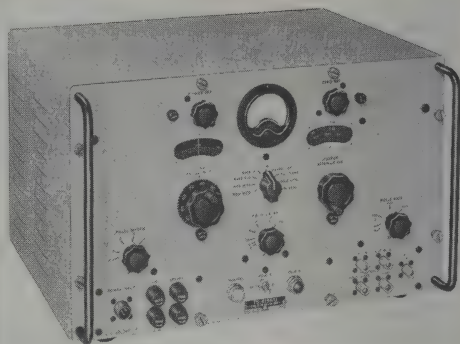

Figure 1-2. Signal Generator TS-419A/U,
See table 1-1 (figures 1-1 and 1-3) for equipment supplied with Signal Generator TS-419/U. See table 1-4 (figures 1-2 and 1-4) for equipment supplied with Signal Generator TS-419A/U.
a. **SIGNAL GENERATOR TS-419/U.**—Signal Generator TS-419/U (figure 1-2) consists of four major circuits: an r-f oscillator, a modulator and synchronizer, an output system, and a power supply. All of these circuits and their related components are mounted on a common chassis, which is enclosed in a louvered instrument case. All electrical connections are made through the front panel. All controls are directly calibrated and are mounted on the front panel. Two vertically positioned handles, which act as guard rails, are located at the extreme ends of the front panel. The panel is finished a flat grey color and the instrument case is a wrinkle grey. Small vent holes are located in the bottom of the instrument case to permit drainage of any accumulated moisture. A white indicator lamp on the front panel indicates that the space heaters within the instrument are energized and that electronic circuits are unenergized. A red indicator lamp indicates that the electronic circuits are energized and the space heaters are off. Four fuses, two of which are spares, are installed in suitable fuse holders located near the lower left hand corner of the front panel. The weight of Signal Generator TS-419/U, including the instrument case, but not including the transit case and accessories, is 43 pounds. Outline dimensions of Signal Generator TS-419/U removed from the instrument case are shown